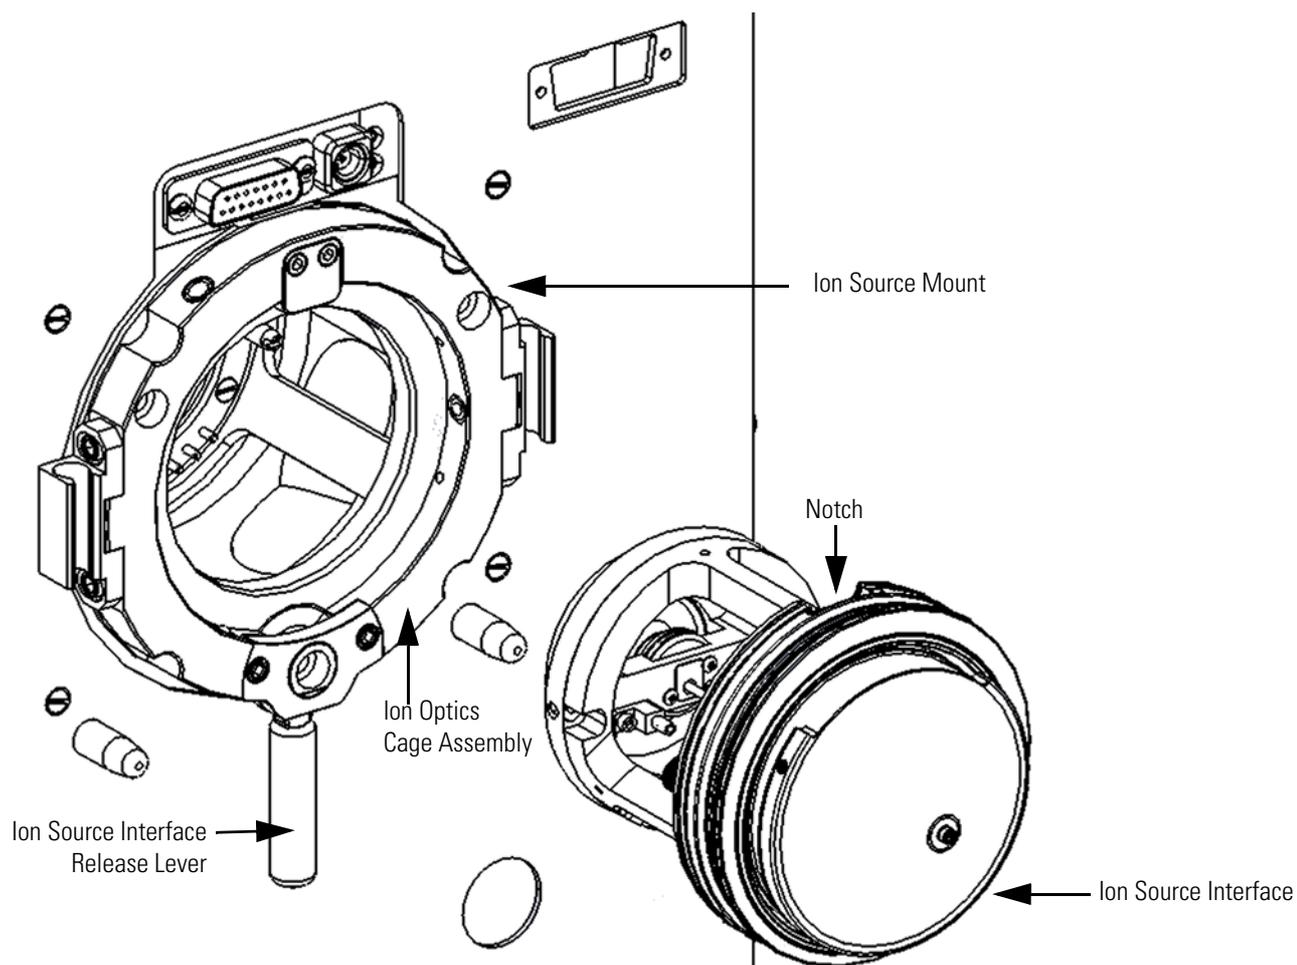

Figure 3-13. Removing the ion source interface
2. Using a right-to-left motion, move the ion source interface release lever several times to loosen the ion source interface from the ion optics cage assembly. See Figure 3-13 on page 3-22.